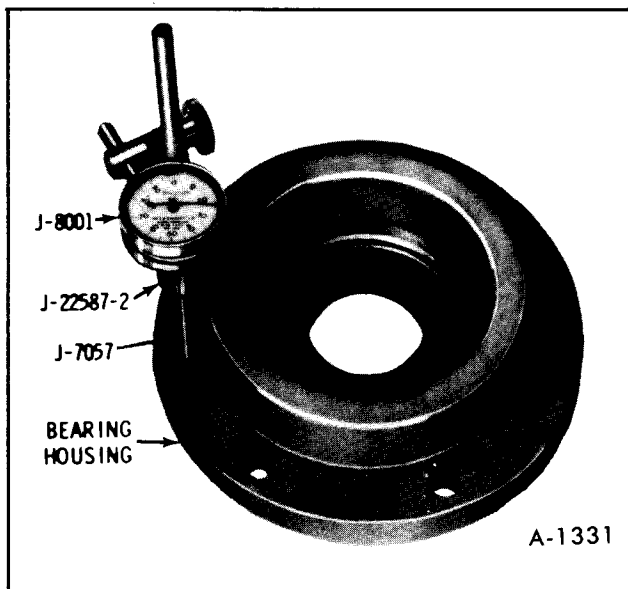

Figure 43—Checking Outer Flange Of Housing
5. Carefully lift dial indicator assembly over flange of bearing housing and position assembly as shown in Figure 43. With the three contact studs held firmly against shoulder of bearing housing, read the dial indicator deflection. **RECORD THIS DEFLECTION.**